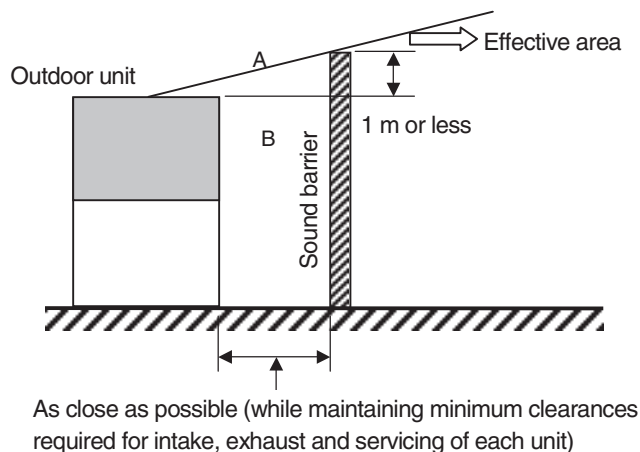

Figure 3. Sound barrier
- The barrier should be located as close as possible to the outdoor unit (sound source). (Figure 3) (Be certain to preserve the required space for air intake and exhaust, service and maintenance.)
- The barrier should be sufficiently higher than the top of the outdoor unit. (Figure 3) (However, not more than 1m higher.)